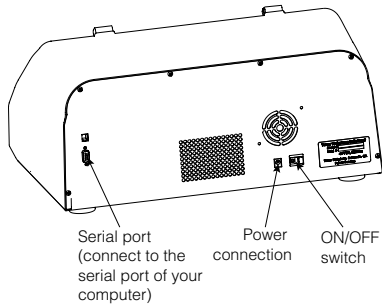

Figure 4. Rear view of the GloMax® 96 Microplate Luminometer.
5. Turn ON luminometer using the ON/OFF switch on the rear of the luminometer (Figure 4).